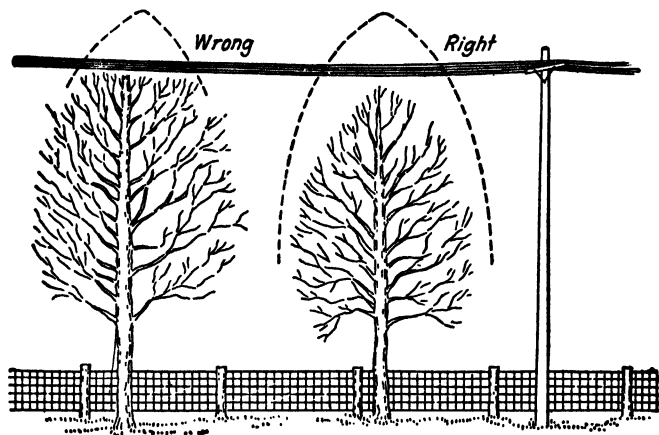

FIG. 28-5. Wrong and right method of trimming a tree that is growing into the line conductors. (Courtesy Wisconsin Power & Light Co.)
**Right and Wrong Methods.** Before giving in detail the various steps in pruning, a few illustrations will first be shown of the right and wrong methods of trimming. Figure 28-5 shows the right and the wrong method of trimming a tree that is growing up into the line conductors. Such a tree must be trimmed to remove the possibility of grounding the